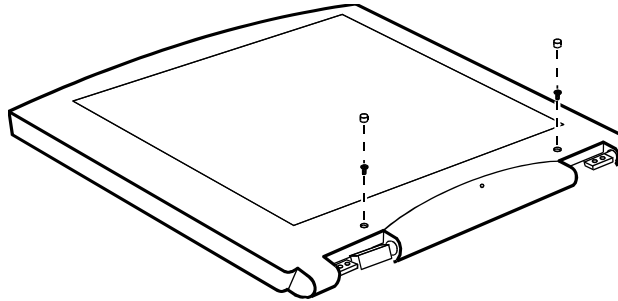

FIGURE 7-21. REMOVING THE LCD FRAME
2. FIT THE LCD FRAME BACK TO THE HOUSING AND REPLACE THE TWO SCREWS AND RUBBERS. (SEE FIGURE 7-21 EARLIER).